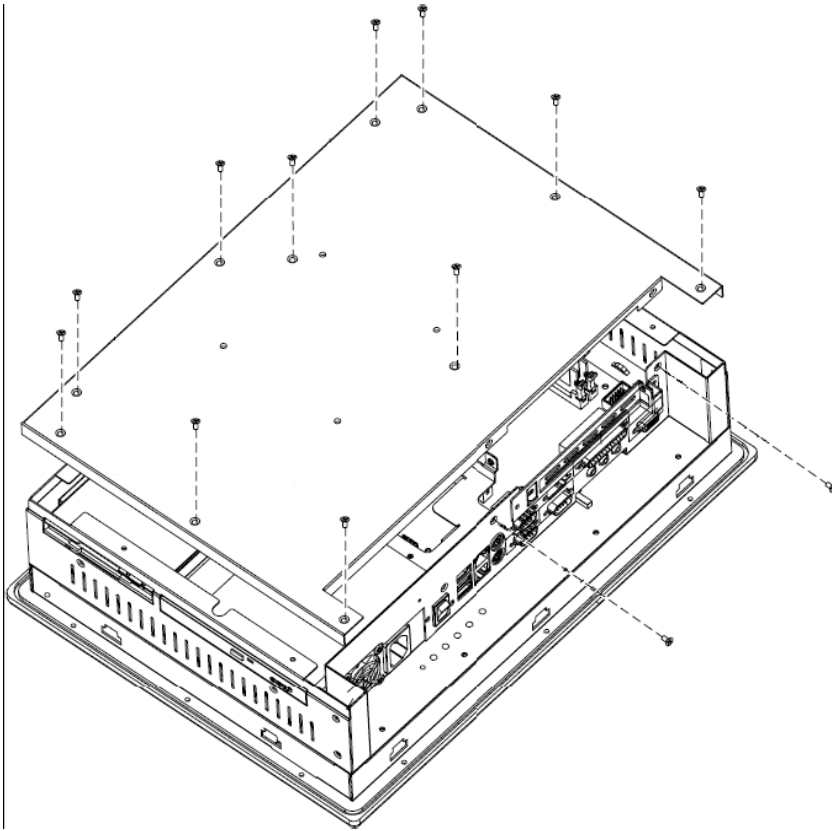

Figure 4-1: Rear Cover Retention Screws (Real Panel)
Step 2: The back cover is secured to the chassis with nine retention screws, eight on the rear panel and one on the bottom panel. (See **Figure 4-1**) Remove the nine retention screws and lift the cover off the IVC-17PC-P.